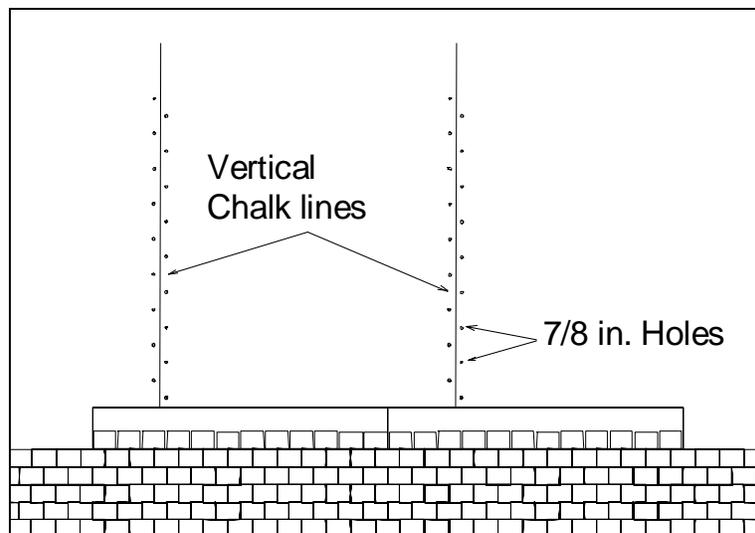

Figure 13
- 5.5 Repeat steps 4.2 through 4.4 for all remaining PV shingles in first row as shown in figure 13.